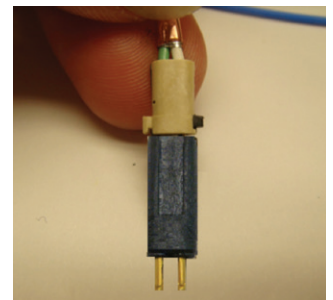

Figure 61: Attaching beige rear insulator
21. Insert the beige rear insulator on the top of the contacts (Figure 61).